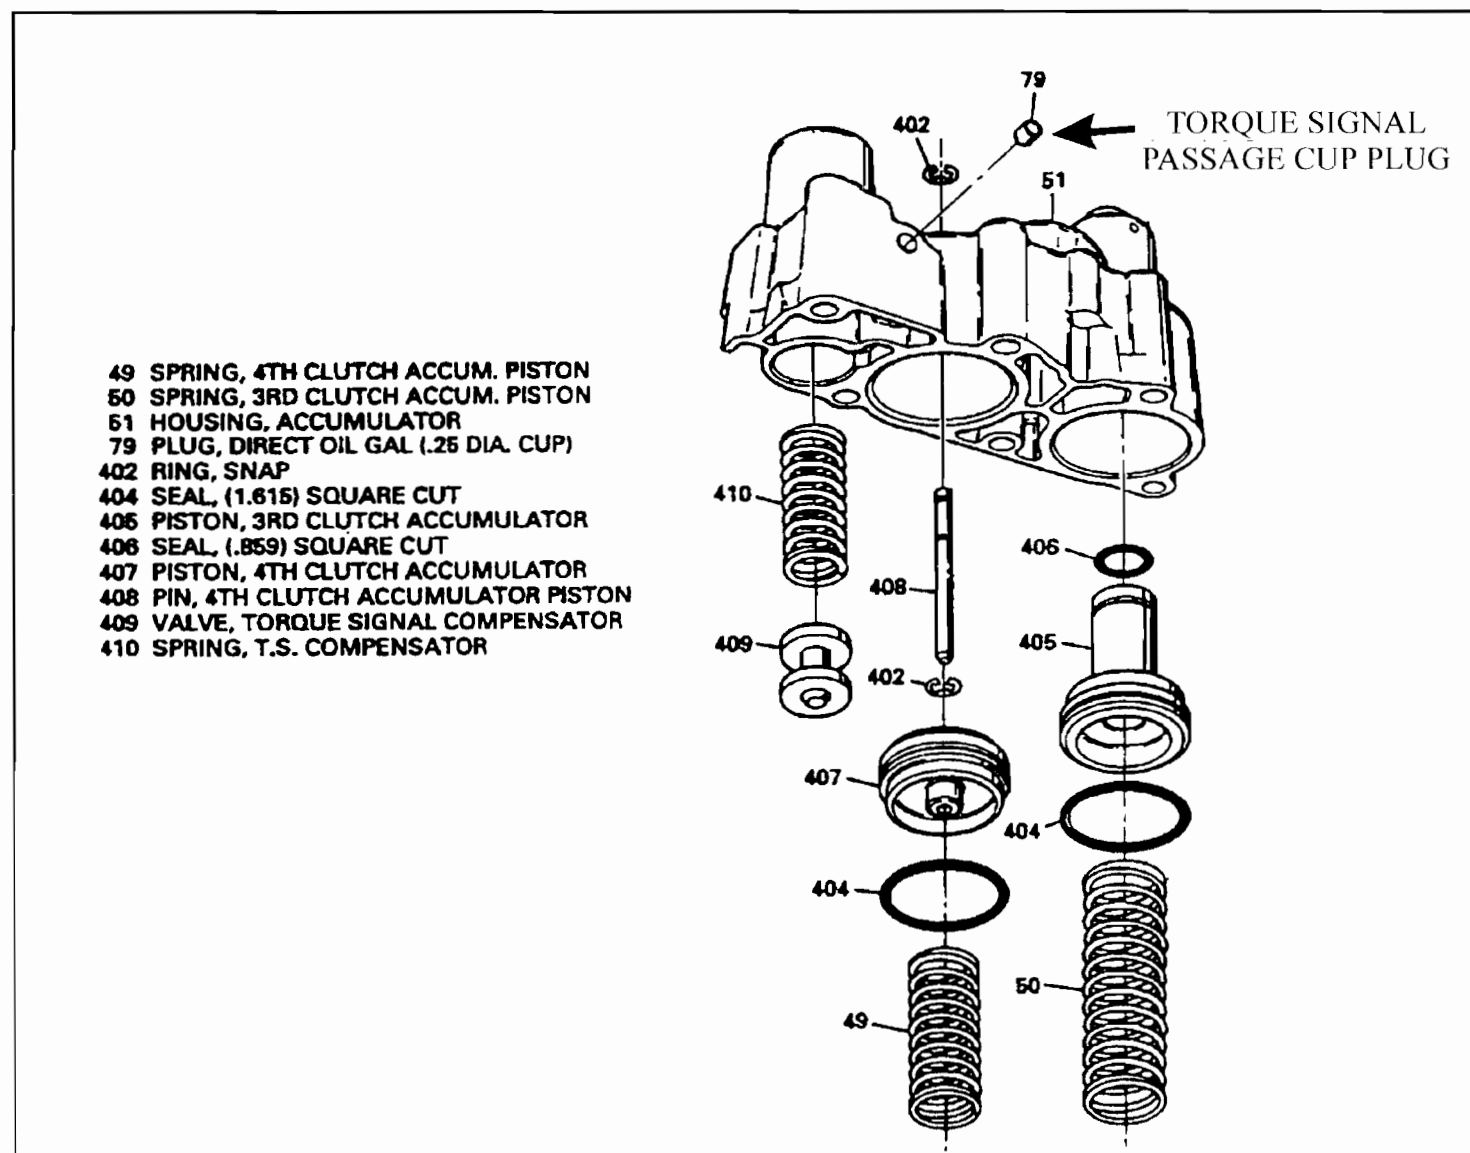

Figure 42
**CAUSE:** The cause may be that the cup plug has blown out of the torque signal passage in the accumulator body. See Figure 42 for the location of the cup plug.